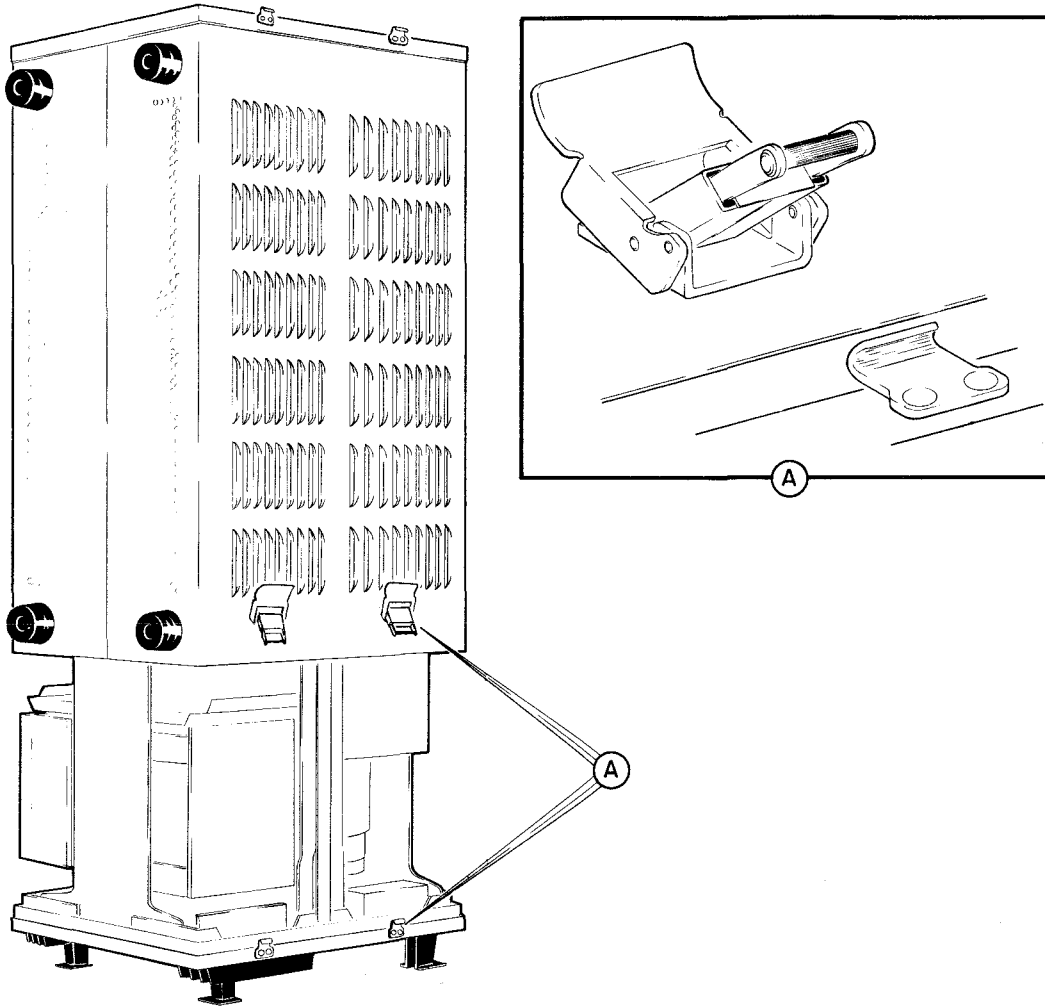

Figure 5-1. Oscilloscope Cover Removal
- (1) Insure that POWER switch is off.
- (2) Set oscilloscope on rear end.
- (3) Release 4 latches (Figure 5-1) at rear of oscilloscope.
- (4) Lift oscilloscope cover straight up to remove.